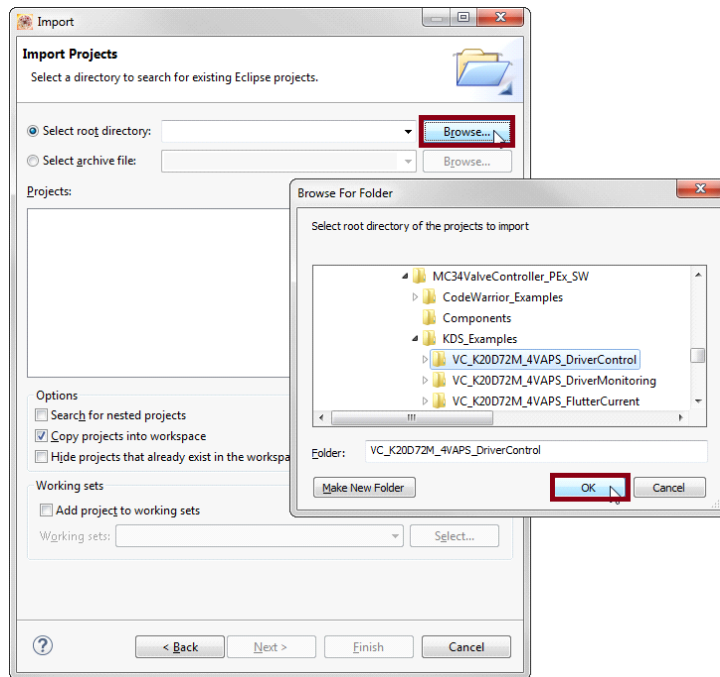

Figure 10. Importing an Example File (b)
2. Click **Browse** and locate the folder wherewith unzipped downloaded example files are located. Find the folder MC34ValveController_PEx_SWKDS_Examples and select a project to import. (see Figure 10, which shows VC_K20D72M_4VAPS_DriverControl as the imported project). Then click **OK**.